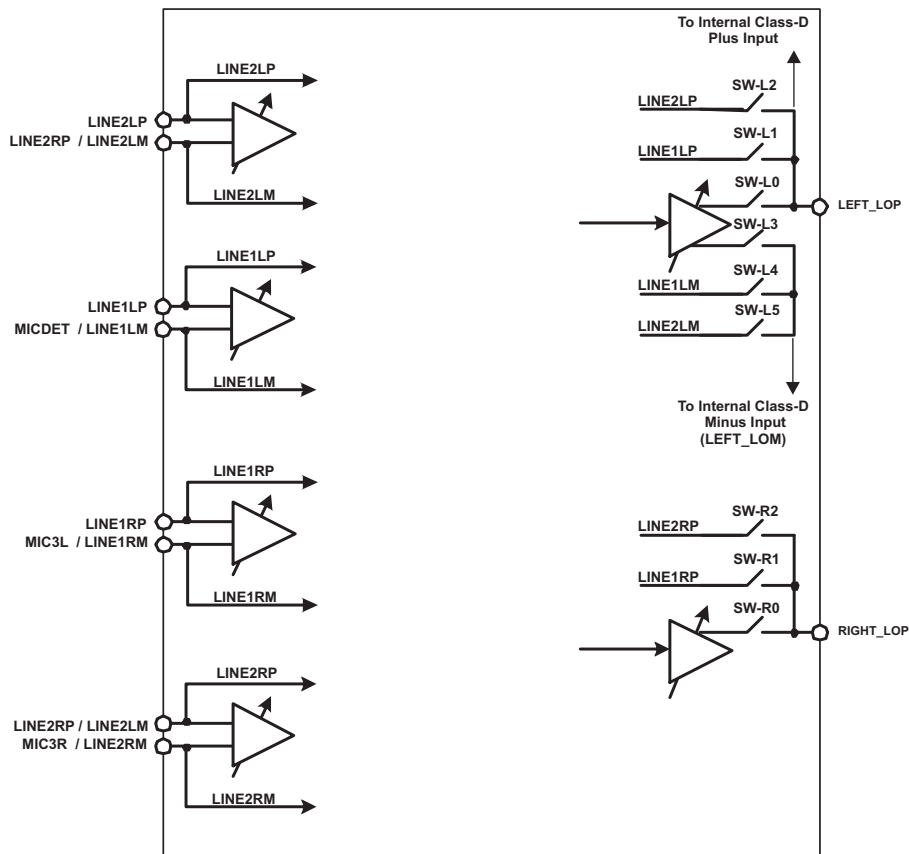

Figure 32. Passive Analog Bypass Mode Configuration
Programming the TLV320AIC3107 to Passive Analog bypass occurs by configuring the output stage switches for pass through. This is done by opening switches SW-L0, SW-L3, SW-R0, and closing either SW-L1 or SW-L2 and SW-R1 or SW-R2. See Figure 32 Passive Analog Bypass Mode Configuration. Programming this mode is done by writing to Page 0, Register 108.
Connecting MIC1RP/LINE1RP input signal to the RIGHT\_LOP pin is done by closing SW-R1 and opening SW-R0, this action is done by writing a “1” to Page 0, Register 108, Bit D4. Connecting LINE2RP/LINE2LM input signal to the RIGHT\_LOP pin is done by closing SW-R2 and opening SW-R0, this action is done by writing a “1” to Page 0, Register 108, Bit D6. A diagram of the passive analog bypass mode configuration can be seen in Figure 32.
Differential Class-D speaker outputs are available on the SPOP and SPOM pins as shown in Figure 39. The integrated Class-D speaker amplifier can drive a one Watt audio signal into a differential 8-Ω load. The plus input to the Class-D amplifier is the same signal available at the left lineout LEFT\_LOP pin. The minus input to the Class-D amplifier is an internal signal that is sourced as shown in Figure 32. A register (73) is used to enable the Class-D amp and set its gain control (0 dB to +18 dB). Following the gain control and before the outputs is a fixed +6 dB gain. Note that there are many other gains available in the signal path leading up to the Class-D amp so for best results the user must map the gains correctly.